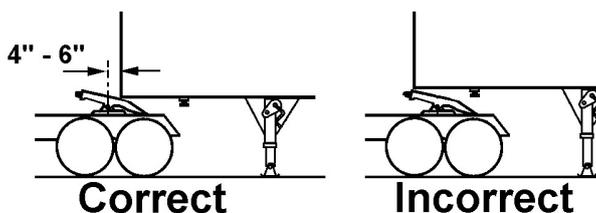

Figure 3-2 Coupling Truck To Trailer
6. Inspect the height of the trailer vs the fifth wheel. The kingpin plate on the front of the trailer should first contact the fifth wheel 4-6 inches rearward of the fifth wheel centerline. See figure 3-2. The trailer should rise slightly when the truck is backed under it. If the trailer is too low, the truck may strike and damage the front of the trailer. If the trailer is too high, it will not couple correctly. Adjust the landing gear as needed to achieve the correct trailer height.